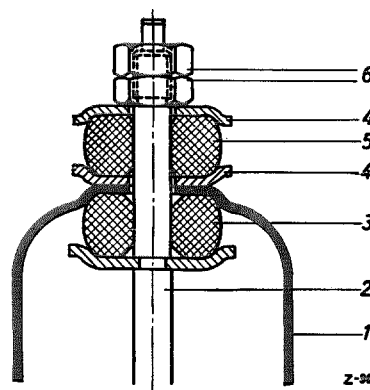

Fig. 32 — 2/1
2. Unscrew the hexagon nuts (6) of the upper shock-absorber mounting. Remove cup (4) and rubber ring (5) (see Fig. 32 — 2/1).
4. Take the lower rubber ring (3) off the shock-absorber.
7. Push the lower rubber ring (3) onto the mounting bolt of the shock-absorber and pull the piston rod (2) of the shock-absorber right out.
8. Slide the shock-absorber through the lower control arm, the spring and the dome of the front axle support. Push the upper rubber ring (5) and the cup (4) onto the mounting bolt and screw on the two hexagon nuts (6) (see Fig. 32 — 2/1).
fixing brackets should be used for both sides (see Fig. 32 — 1/1).